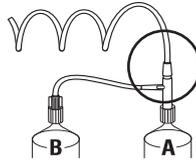

Figure 9 - 7: T-connector
**NOTE:** If using a connector tube with a T-connector, first attach the straight portion to the contrast (A) syringe and then the extension to the saline (B) syringe (Figure 9 - 7: T-connector).